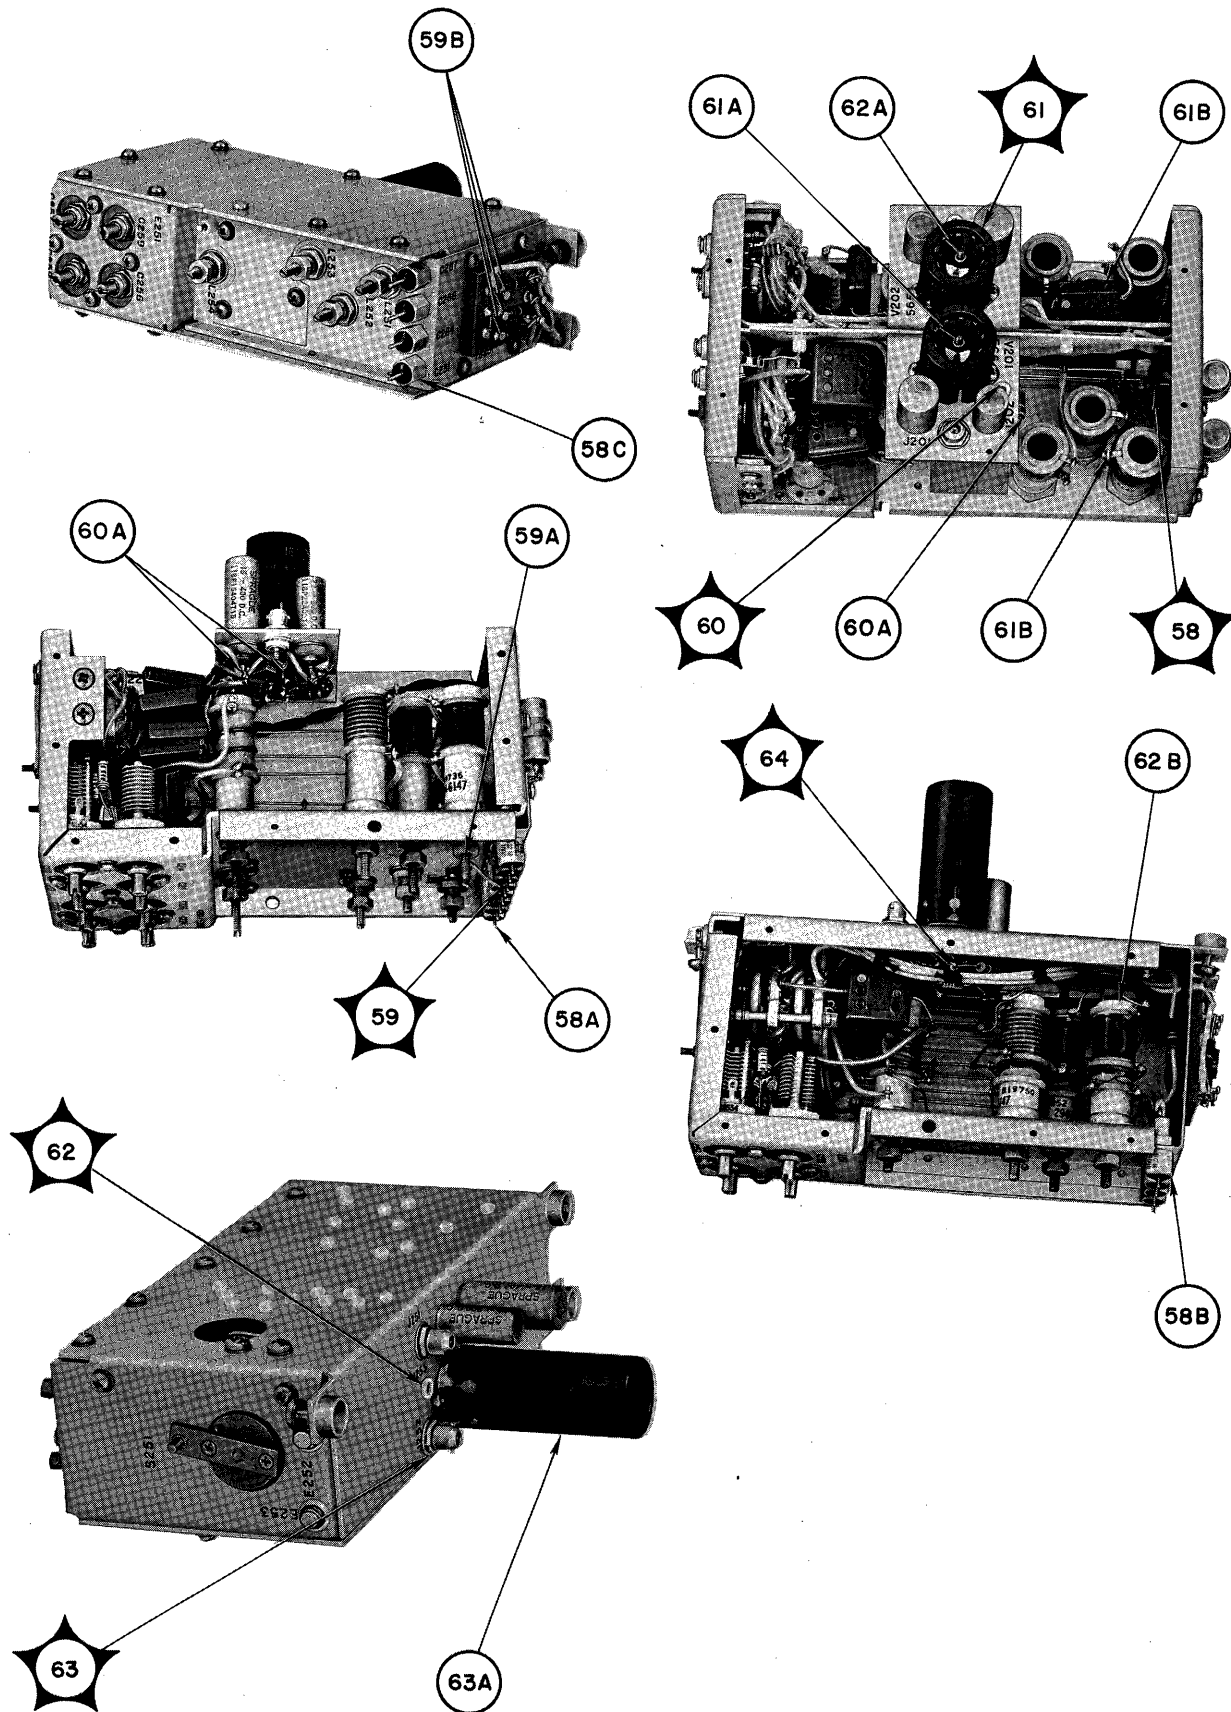

Figure 5-40. Harmonic Amplifier, Location of Test Points
**f. HARMONIC AMPLIFIER TROUBLE-SHOOTING CHART.**—Table 5-11 is the trouble-shooting chart for the harmonic amplifier. Perform each step in the order presented. Compare the result with information in the **NORMAL INDICATION** column and then follow the instructions in the **NEXT STEP** column. Figure 5-40 shows the location of test points. Table 6-5 gives voltage and resistance measurements at the tube sockets.